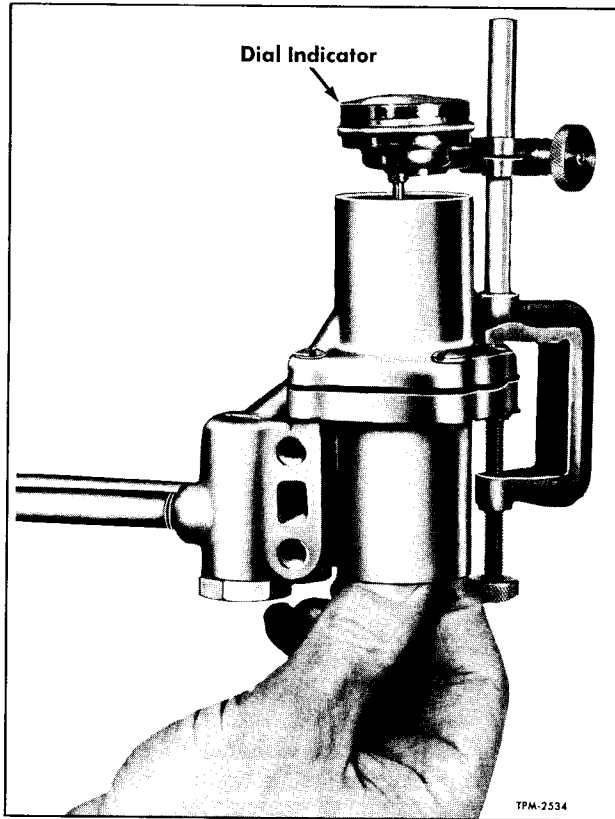

Figure 20—Checking Governor Valve Travel
3. Install new O-ring (20) in groove in diaphragm stem (19). Install diaphragm and stem in spring cage (21), making sure stem is a neat sliding fit in bore in spring cage.
5. Install strainers (22), felt washers (23), and strainer screw caps (25) in bottom of spring cage, using new strainer cap O-rings (24) in grooves in screw caps. Tighten screw caps firmly.
6. Measure total valve travel (fig. 20) by pulling diaphragm stem down as far as possible and setting dial indicator at zero when contacting top of exhaust stem. Push diaphragm stem completely in and read total valve travel on dial indicator. Total travel should be 0.060" to 0.098".
7. Install new O-ring (6) in groove on inlet valve seat (7), then install inlet valve seat and inlet-exhaust valve. Repeat the above check starting with the indicator zeroed on end of inlet-exhaust valve. Add or remove shims (8) under inlet valve seat until valve travel is within 0.030" to 0.040".
8. Install inlet valve seat retaining spring (3) and inlet valve spring (4). Install new O-ring (2) on valve body screw cap (1) and thread screw cap into valve body. Tighten screw cap firmly.
9. Install pressure setting spring (26) and spring seat (27) on diaphragm stem in spring cage and secure with adjusting nut (28).
10. Mount governor on suitable test rack or on vehicle and connect air pressure source to port marked "RES." Leave spring cage screw cap (31) removed.
11. Build up pressure from zero and note pressure at which air starts to escape from spring cage. If less than 115 psi, turn adjusting nut clockwise; if above 120 psi, turn adjusting nut counterclockwise. After final adjustment, leakage should start at 115-120 psi. Secure adjusting nut (28) with cotter pin (29).
12. Install new O-ring (30) in groove in spring cage screw cap (31) and thread cap into spring cage. Tighten firmly.